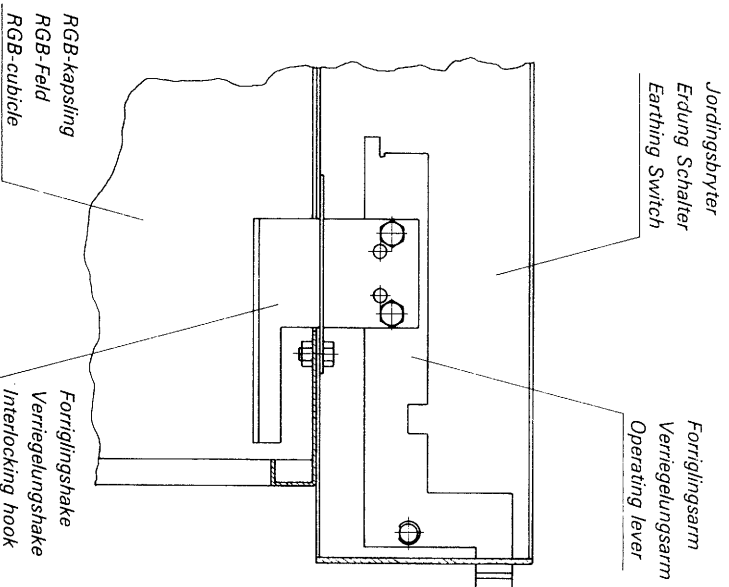

Fig. 7
2. Place the earth switch on top of the cubicle and move it backwards until the tulip contacts have full contact with the corresponding contacts in the cable board. Fig. 7.